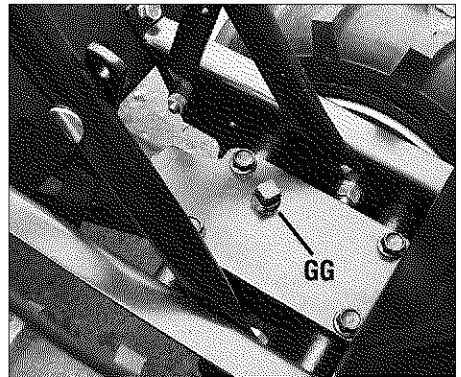

Fig. 2-11: Remove gear oil fill plug.
2. Remove the oil fill plug (GG, Fig. 2-11) from the transmission housing and look into the oil fill hole. You will see the main drive shaft on one side of the hole.